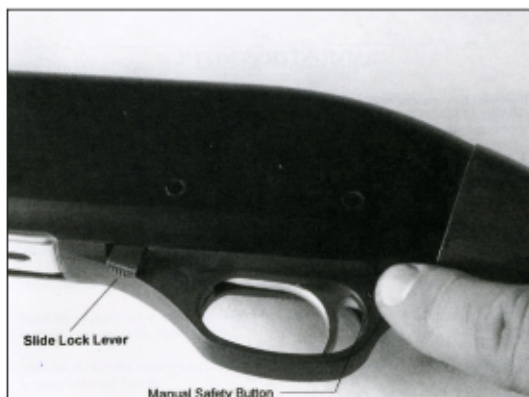

Fig. 2
4. With the other hand depress the slide lock lever and pull the forearm rearward until the bolt stops at the rear of the receiver (refer to fig. 2, page 6).
2. Press the slide lock lever to release the bolt (refer fig. 2, page 6) Pull the forend to the rear to stage the Shell.